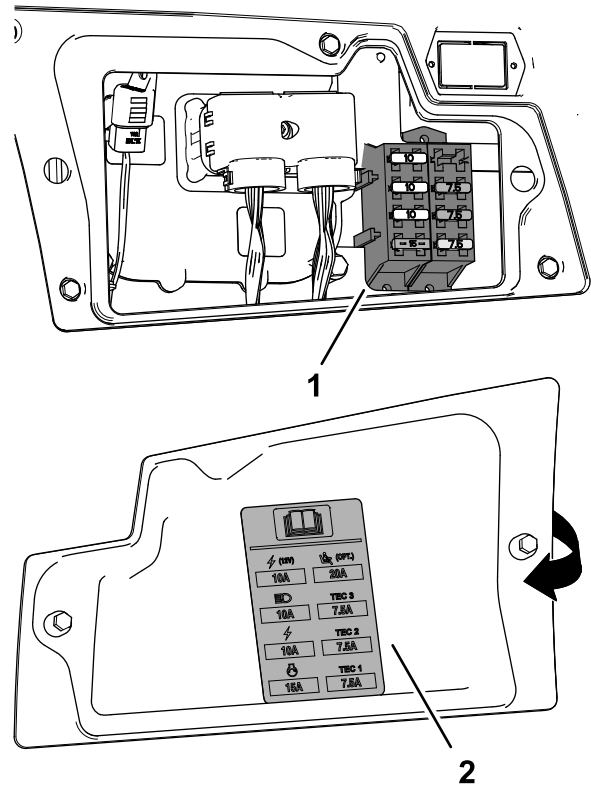

**Figure 133**
2. Open the 2 latches that secure control-arm cover to the control arm, and remove the cover (Figure 133).